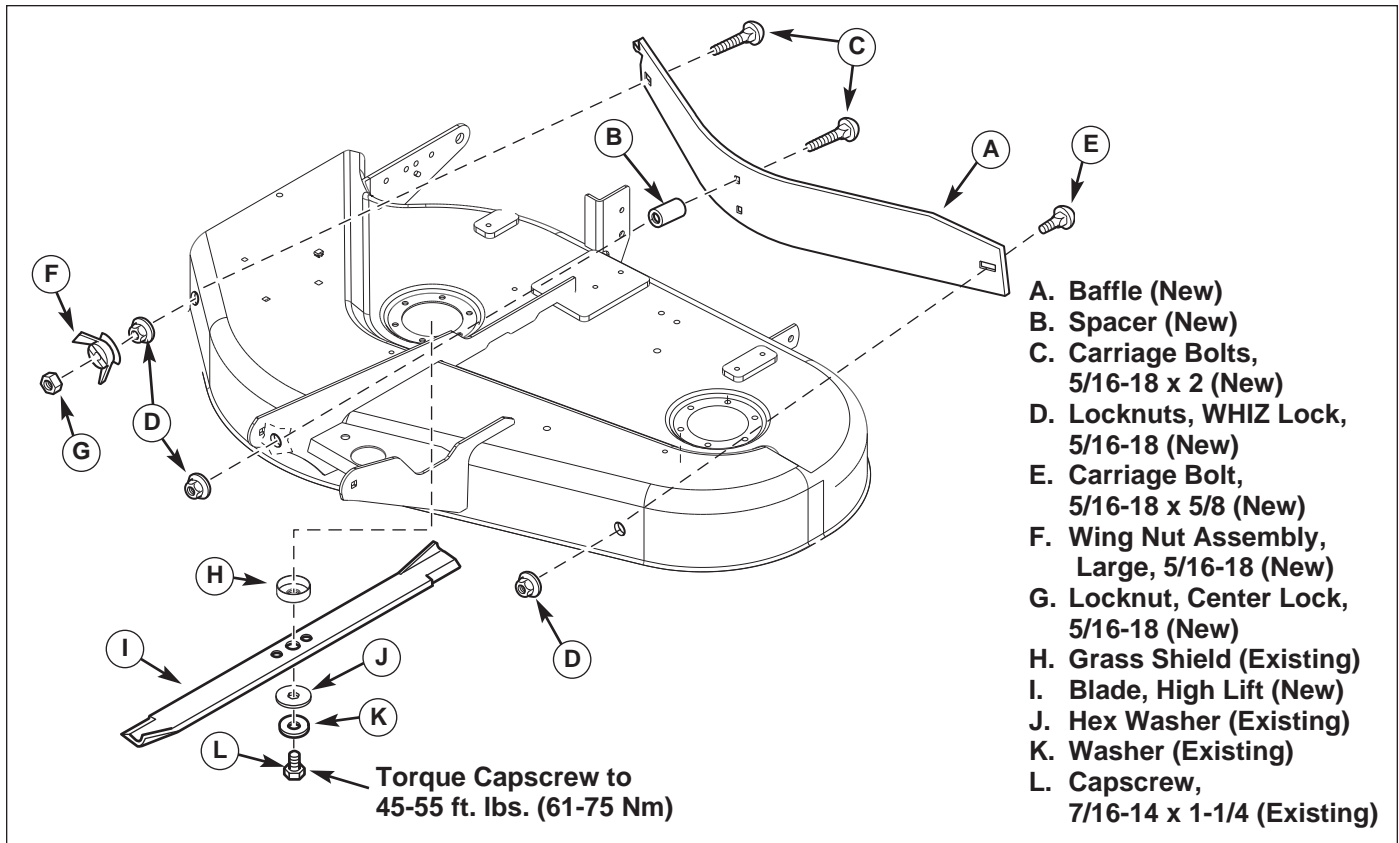
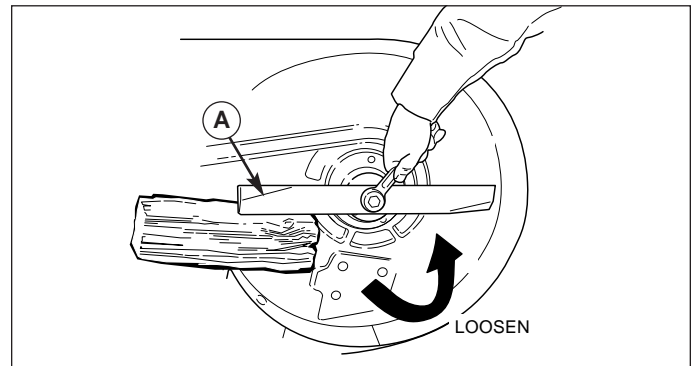

Figure 4. Baffle Assembly
Figure 5. Blade Removal
2. Install notched side of baffle (A, Figure 4) to discharge side of deck securing with 5/16-18 x 2 carriage bolt (C) and 5/16-18 locknut (D). Install 5/16-18 wing nut (F) and locknut (G) to carriage bolt (C) as shown.
3. Secure center of baffle (A) to deck using 5/16-18 x 2 carriage bolt (C), spacer (B) and nut (D). Secure LH end of baffle (A) to deck using 5/16-18 x 5/8 carriage bolt (E) and nut (D).
4. Remove right hand blade (A, Figure 5). Use a block of wood to prevent blade rotation while loosening the capscrew.